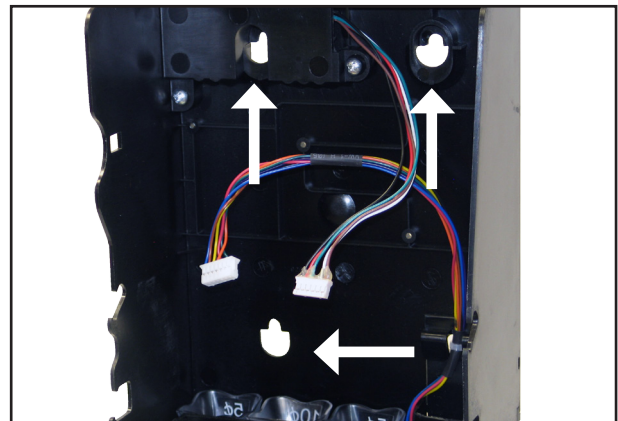

Figure 3
4. Set the three mounting holes in the back of the changer housing over the mounting screws in the vending machine (see Figure 3). Tighten securely by hand.